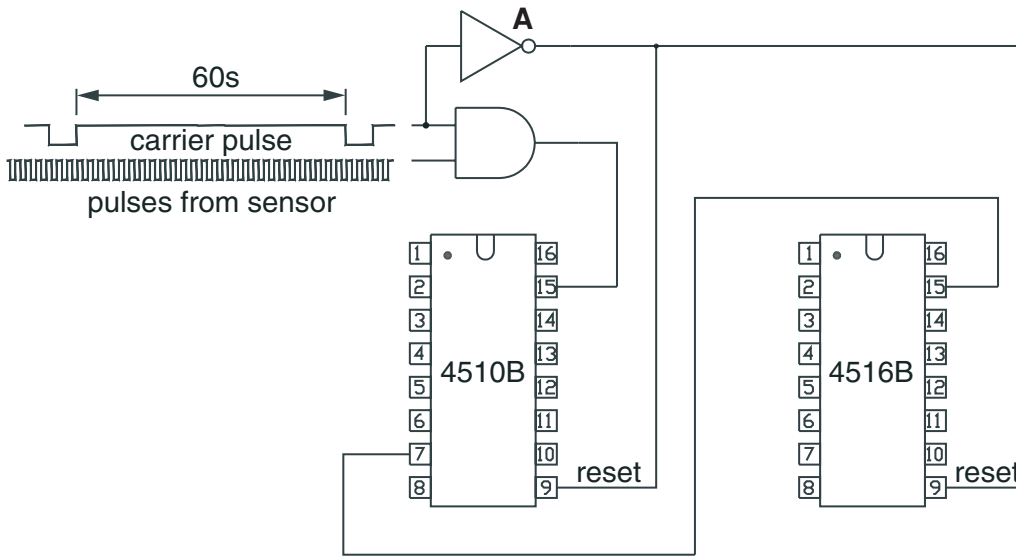

Fig. 21
- (c) Fig. 21 shows the circuit arrangement that will stop the count for a short time after each minute and reset the counters before the next count begins. Explain the reason for connecting the reset pins to gate **A**.